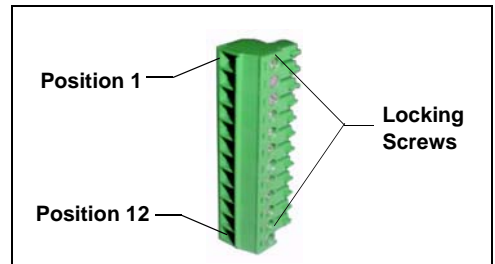

Figure D-6. 12-Position Connector Plug
1. Locate two twisted pairs of wires (P/N 043598) and 12-position connector plugs (P/N 923686) (see Figure D-6) in the ICS-2000 and AS or AS50 (USB) Ship Kits.